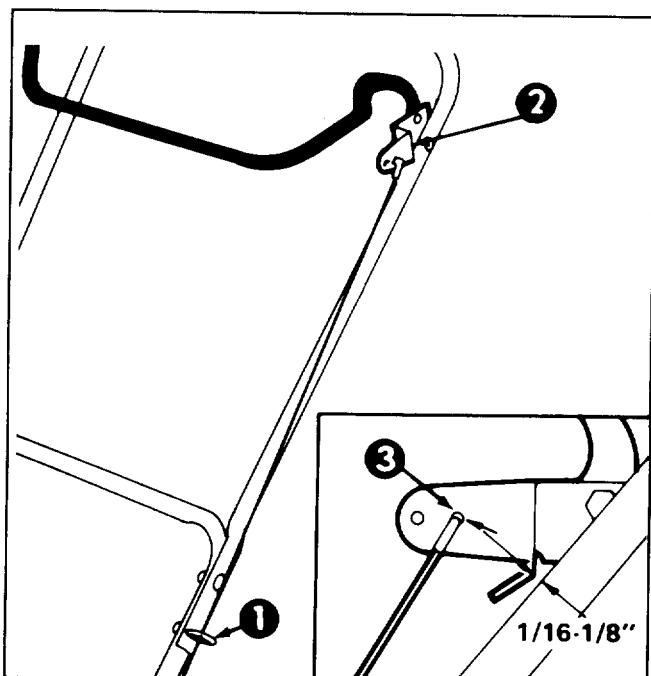
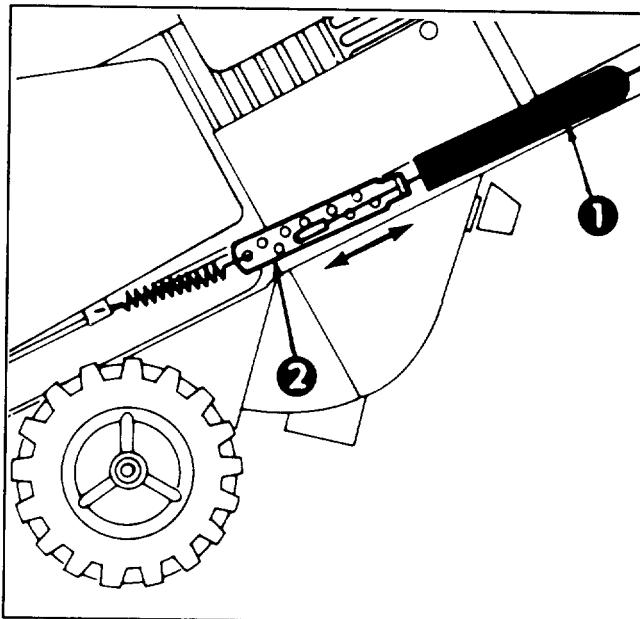

Figure 9
Figure 10
2. CHECK ADJUSTMENT (Fig. 9)—Move control bar back toward handle until slack in cable is removed. Gap between control bar bracket and handle should be approximately $1/16$ "– $1/8$ ". If cable is too loose or too tight, proceed to step 3 for adjustment procedure.
3. ADJUST CABLE—Unhook upper cable end from hole in control bar bracket (Fig. 9). Slide spring cover up cable to expose cable adjuster (Fig. 10). Unhook lower cable end from adjuster. Reposition cable end in a higher or lower hole on adjuster to obtain a gap of $1/16$ "– $1/8$ " between control bar bracket and handle. (Positioning cable end in a lower hole decreases gap; positioning cable end in a higher hole increases gap.) Reinstall upper cable end into rear hole in control bar bracket (hole with arrow) (Fig. 9). Slide spring cover over cable adjuster and recheck adjustment. Repeat procedure until the proper gap of $1/16$ "– $1/8$ " between control bar bracket and handle is obtained.